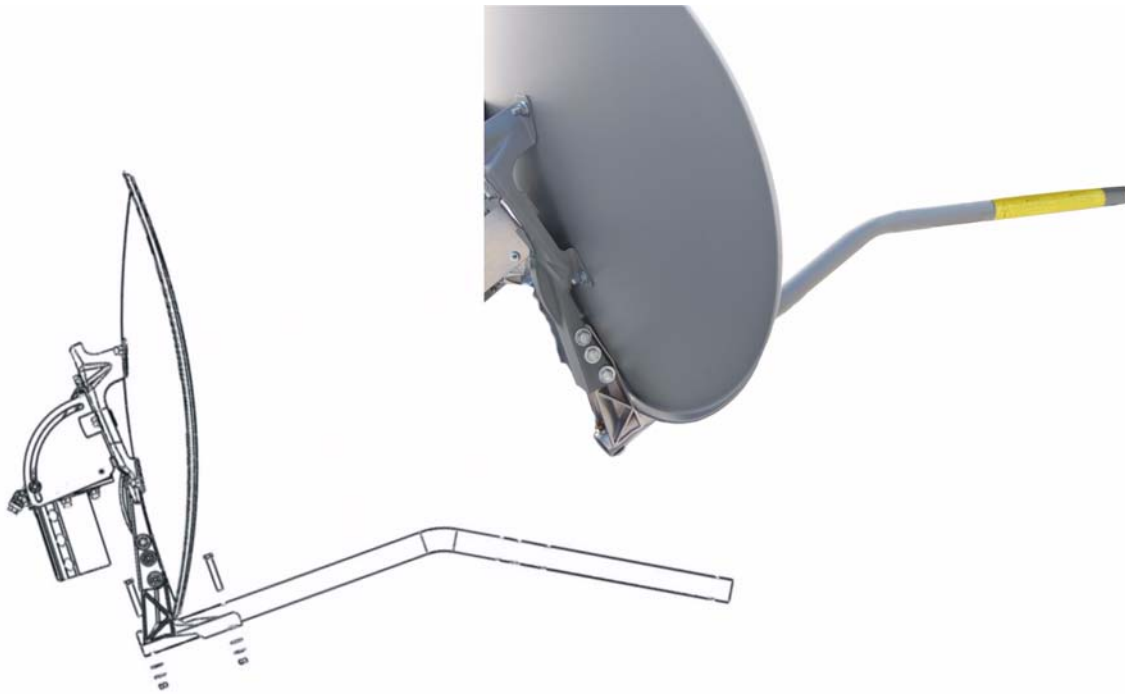

Figure 16: Attaching the feed support arm to the tailpiece
1. Insert the feed support arm into the tailpiece, as shown in Figure 16.